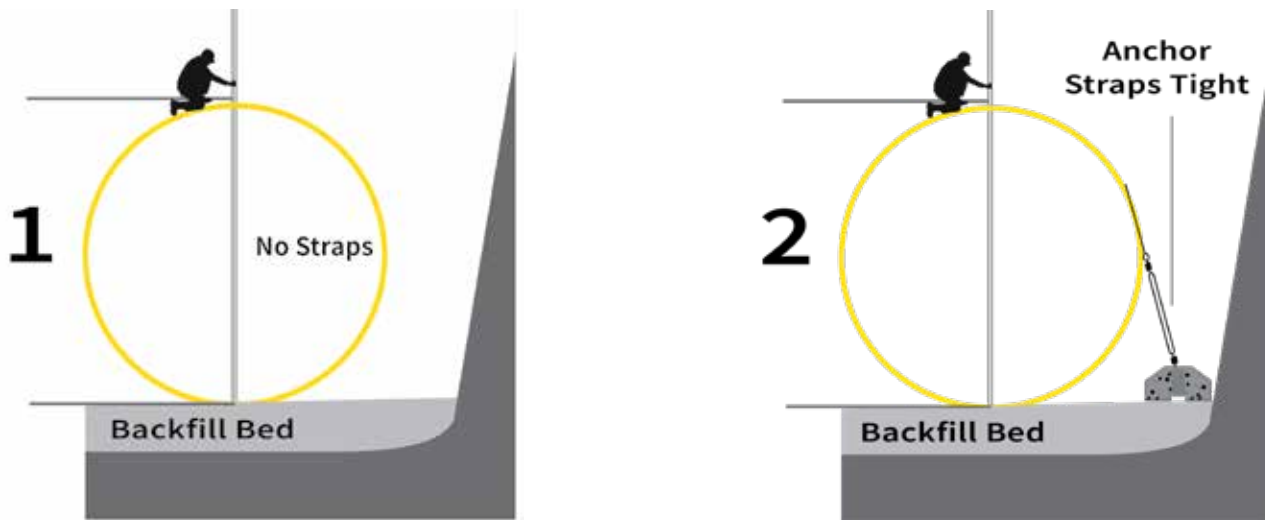

Figure 13: Tank First Measurement (Left) Second Measurement (Right)
- ✓ Set the Tank directly on the backfill bed and take the First Vertical Diameter Measurement and record on the Tank Installation Checklist, see Figure 13.
- ✓ If mechanical anchoring is used, after anchoring is completed, take the Second Vertical Diameter Measurement, see Figure 13.